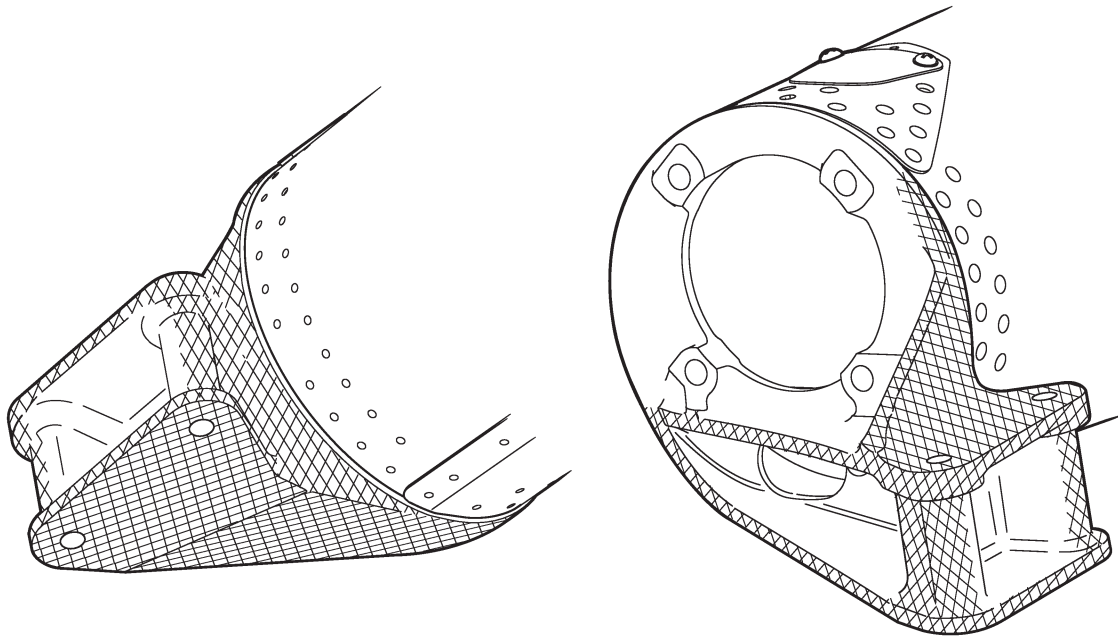

FIGURE 5-8 CROSS-HATCHED SURFACES OF TAILCONE'S AFT BULKHEAD
1. On associated tailcone's aft C148 bulkhead, strip paint from cross-hatched surfaces shown in Figure 5-8 using § 20-71 approved materials.